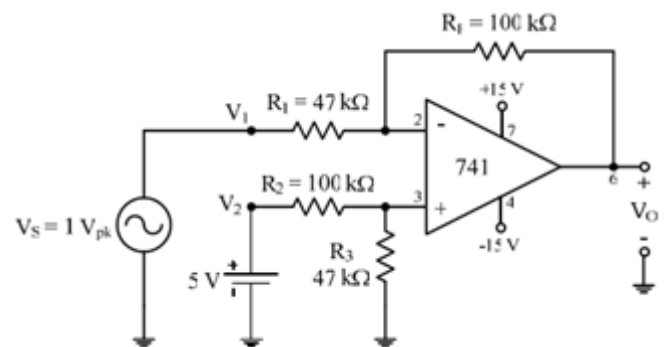

Figure 2
1. To investigate the use of an operational amplifier in a difference amplifier configuration, connect the circuit of Figure 2.